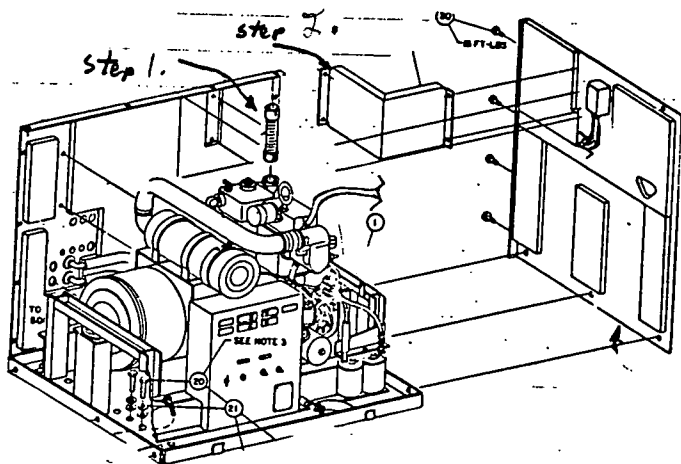

FIGURE 14. Compartment Reassembly
1. Install threaded end of 9-1/4 inch flexible exhaust tube (supplied in accessory package) into generator set exhaust pipe elbow in upper right rear corner of compartment as shown in Figure 14. Tighten securely.
2. Position the compartment interior exhaust shield in the upper right rear corner around the generator set exhaust pipe. Line up mounting holes and secure using 1/4-20 x 5/8 inch hex head capscrews supplied in accessory package. Capscrews are inserted from exterior side of the compartment into self-cinching nuts that are already positioned on the shield. Torque at 7 foot pounds (9N·M). See Figure 14.
3. Replace the right hand side panel of the compartment housing by installing three 3/8 -16 x 3/4 inch hex head capscrews in bottom holes to secure panel to the mounting tray as shown in Figure 14. Torque all 3/8 inch capscrews at 25 foot pounds (34N·M).
4. Install the four 5/16-18 x 3/4 inch hex head capscrews which secure the right hand side panel to the rear(back) panel of the compartment housing. Capscrews are inserted from exterior side of rear panel (near corner) through flange of side panel which contains self-cinching nuts on inside of rear panel as required. See Figure 14. Torque these bolts at 15 foot pounds (20N·M).